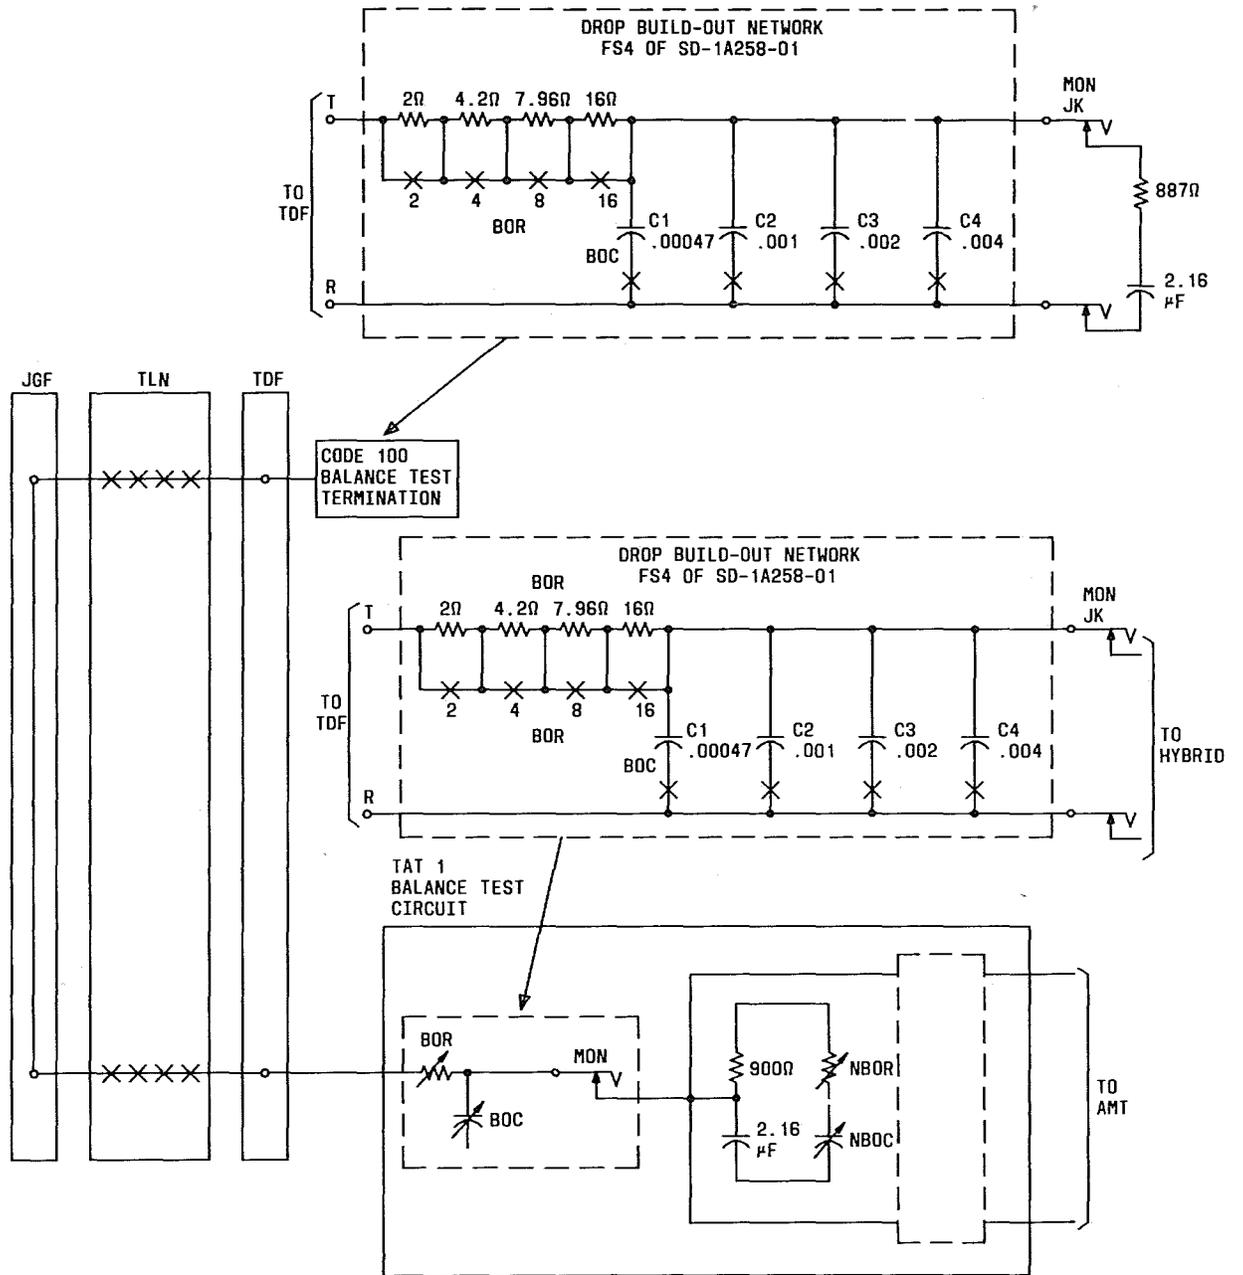

Fig. 1 — Network Interconnection
2. Establish a network connection between a Code 100 test circuit, (SD-1A310) and a TAT 1 circuit SD-1A322 (Fig. 1)
4. At Code 100 test circuit, insert a test tone into the **MON** jack (Fig. 1)